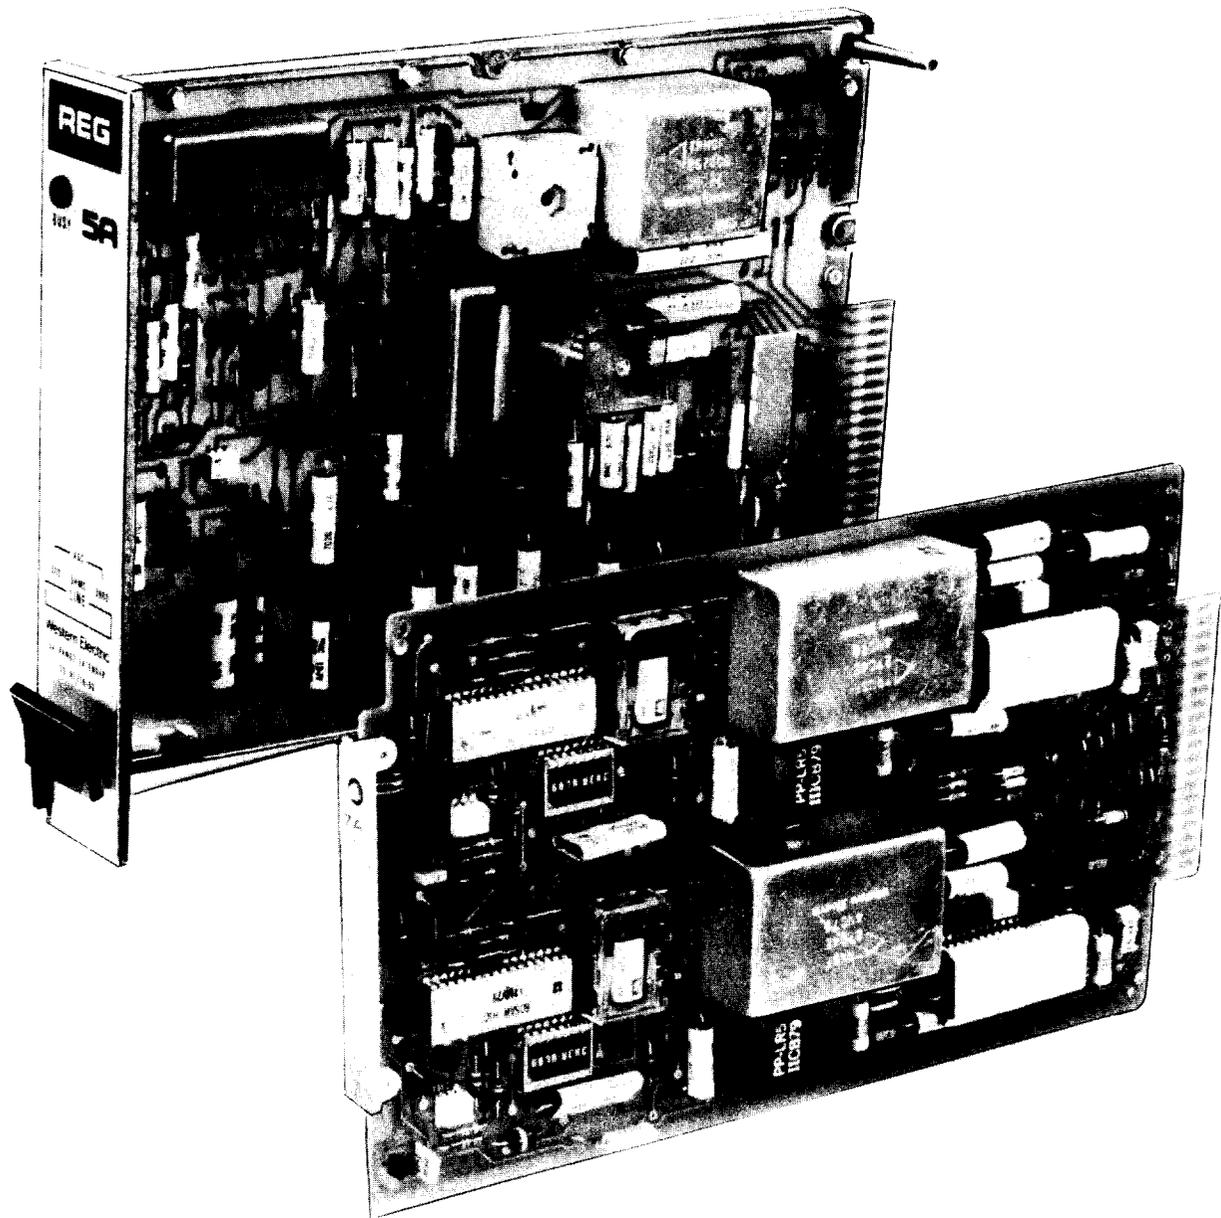

Fig. 3—Comparison of 7A REG to 5A REG
**2.06** The 7A REG is similar in function to the 5A REG. The 7A REG, however, consists of entirely new circuitry with thin-film and silicon integrated components. The 7A REG has two range extension circuits per unit and is assembled on an epoxy glass board and has a plastic faceplate. The plug-in is approximately 6 inches high, 10-1/2 inches deep, and 1 inch wide. The plug-in is shown in Fig. 3 alongside a 5A REG for comparison. The 5A REG contains one circuit per board; the 7A REG contains two range extension circuits in half the space.